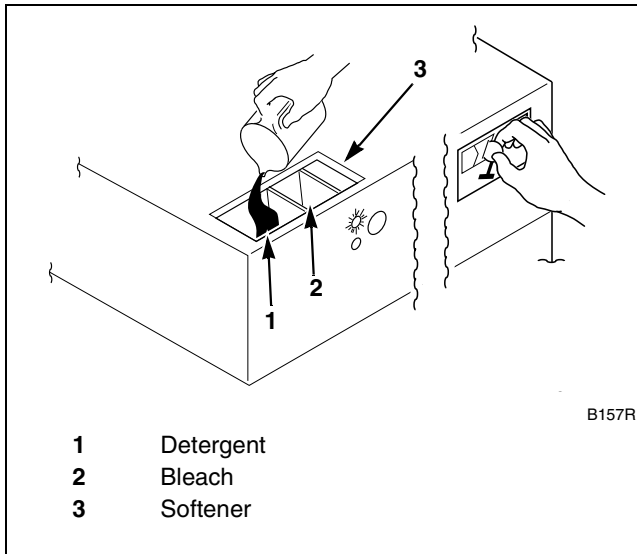

Figure 35
7. Add liquid and/or powder supplies to supply dispenser. Refer to *Figure 35*.